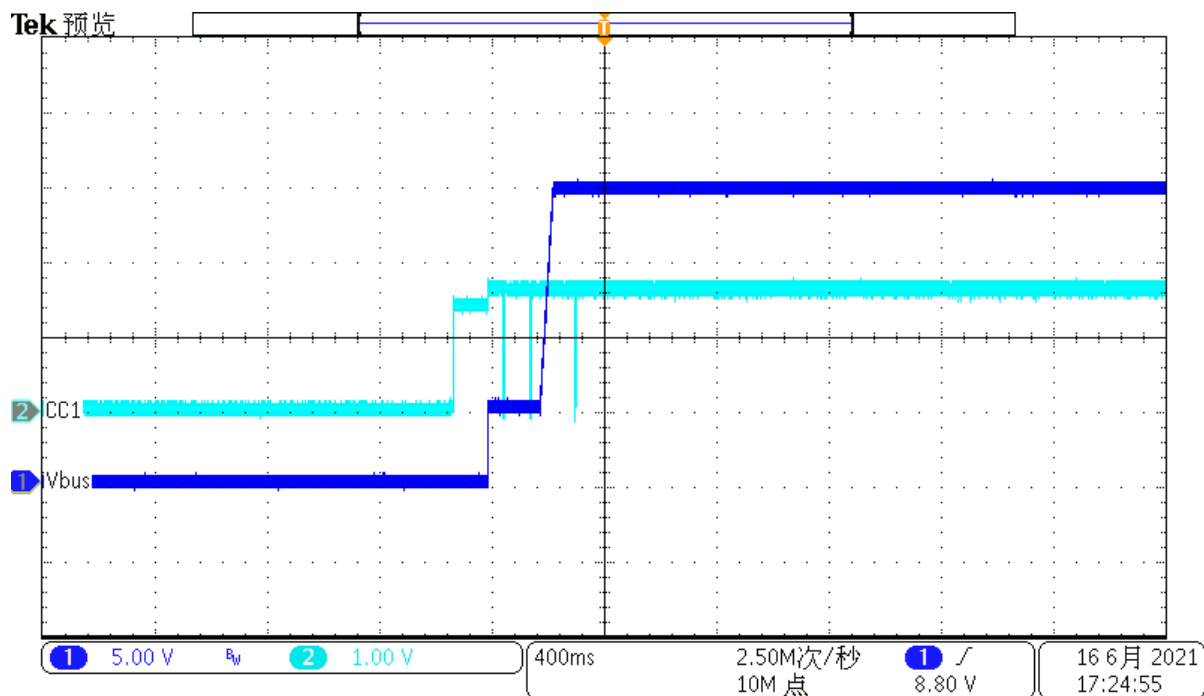

Figure 8. EVB Test Waveform 1
6. Capture the waveforms shown in Figure 8. and Figure 9.